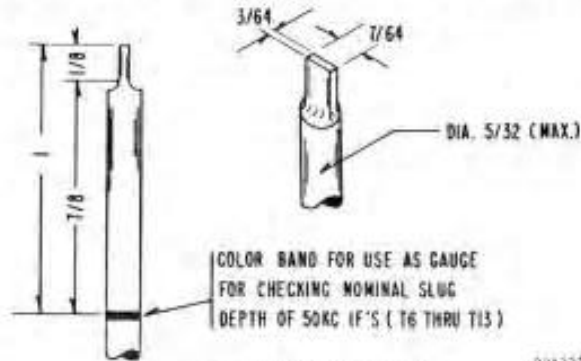
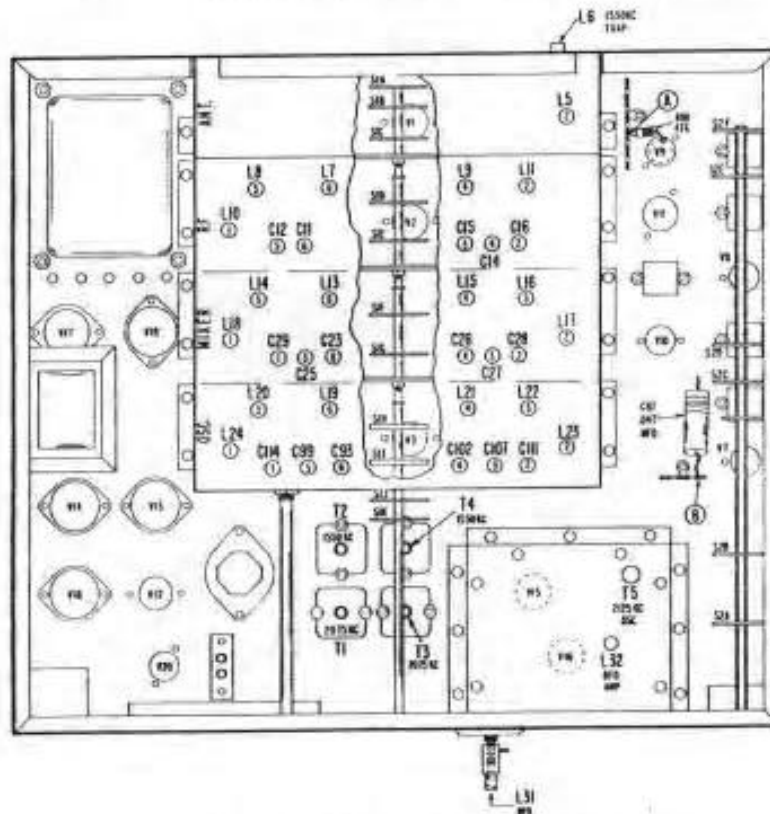

Fig. 7. IF Alignment Tool
Fig. 11. Bottom View of Chassis Showing Location of Alignment Adjustments and Tubes
3. Non-metallic alignment tool for IF alignment with dimensions shown in Fig. 7.
| 1 | Direct | Disconnect wire lead from terminal 4 of T3 (Fig. 11). Connect high side of generator to lead and low side to chassis. | 50 KC (unmod) | 1 | VTVM DC probe to test point "A" (detector load resistor). See Fig. 11. Common to chassis. | .25 KC | Adjust T6, T7, T8, T9, T10, T11, T12, and T13 (50 KC IFs) for maximum indication, maintaining approx. 1 volt reading on VTVM. It is possible to obtain resonance at two different positions of the tuning slug. In the correct position, the top of the slug is approx. 7/8" from top of coil retaining clip. See Fig. 7. |
| 3 | " | " | " | " | VTVM DC probe to test point "B" (AVC bus). See Fig. 11. Common to chassis. | 10 KC | Tune generator slowly thru 50 KC to determine IF passband. Then set generator frequency to center of passband. Next set AVC switch at "ON" and increase generator output to overcome delay bias on AVC amp tube. Adjust L28 (AVC amp coil) for maximum AVC voltage as indicated on VTVM. Maintain approx. 1 volt reading on VTVM. After completing Step 3, reconnect lead to terminal 4 on T3 and return AVC switch to "OFF". |